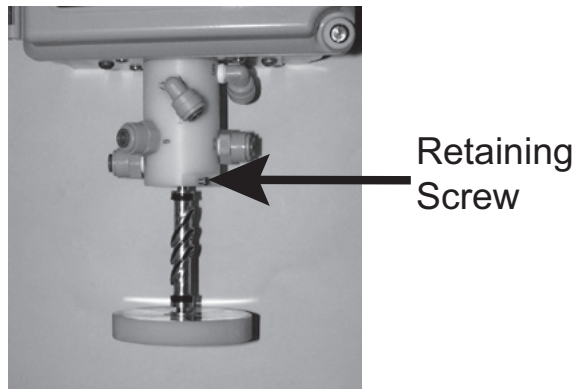

Figure 114.
4. Remove the panhead retaining screw located at the bottom front portion of the pilot valve body (refer to Figure 114). Grasp the position dial and pull the pilot valve spool assembly from the pilot valve body.